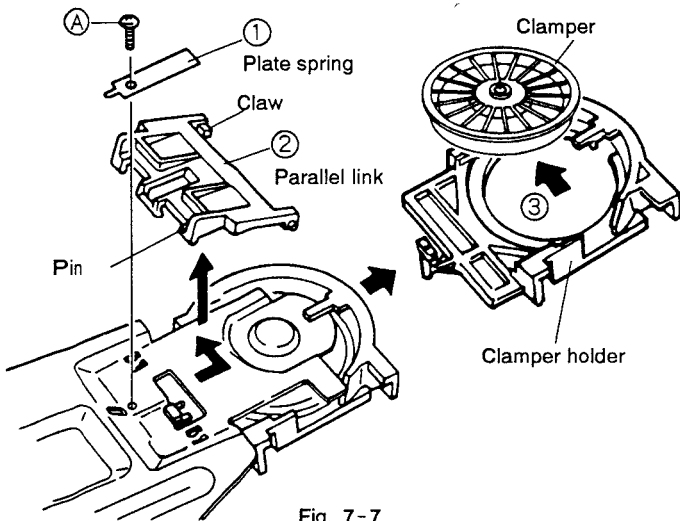

Fig. 7-7
**7.5 REMOVING THE CLAMPER (Fig. 7-7)**
- ① Remove the plate spring by unscrewing screw (A).
- ② Remove the parallel link by sliding it in the direction of the arrow. (Be careful not to damage the claw located on one side of the link.)
- ③ The clumper can be removed by sliding the clumper holder in the direction of the arrow.